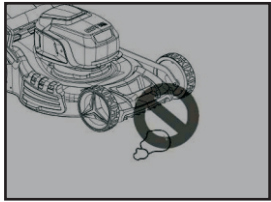

Fig. 11A
3. Before mowing, remove all foreign objects from the lawn which may be thrown by the machine. While mowing, stay alert for any foreign objects which may have been missed. (Fig.11A)